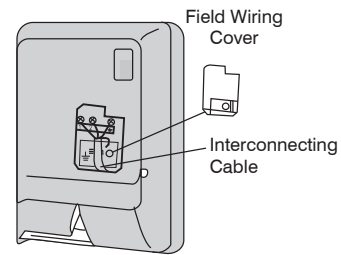

Fig. 13 – Field Wiring Cover
5. Open front cover of indoor unit and remove field wiring terminal block cover (see Fig. 13)